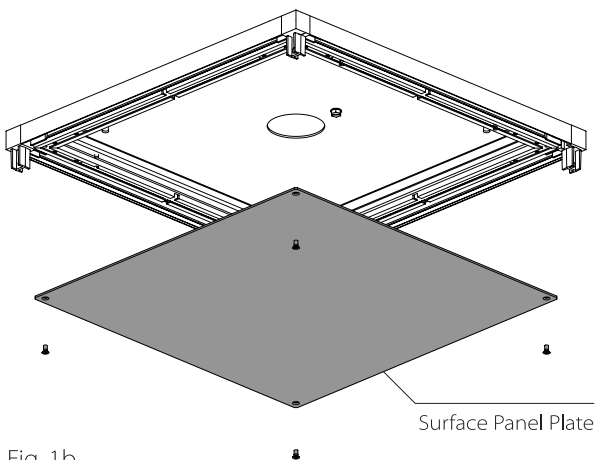

Fig. 1b
6. Reinstall Surface Panel Plate with countersunk screws, install all missing Arm Caps as shown in Fig 1b, and restore power back to Outlet Box. **NOTE: Make sure Surface Panel Plates and Arm Caps are not pinching wires.**